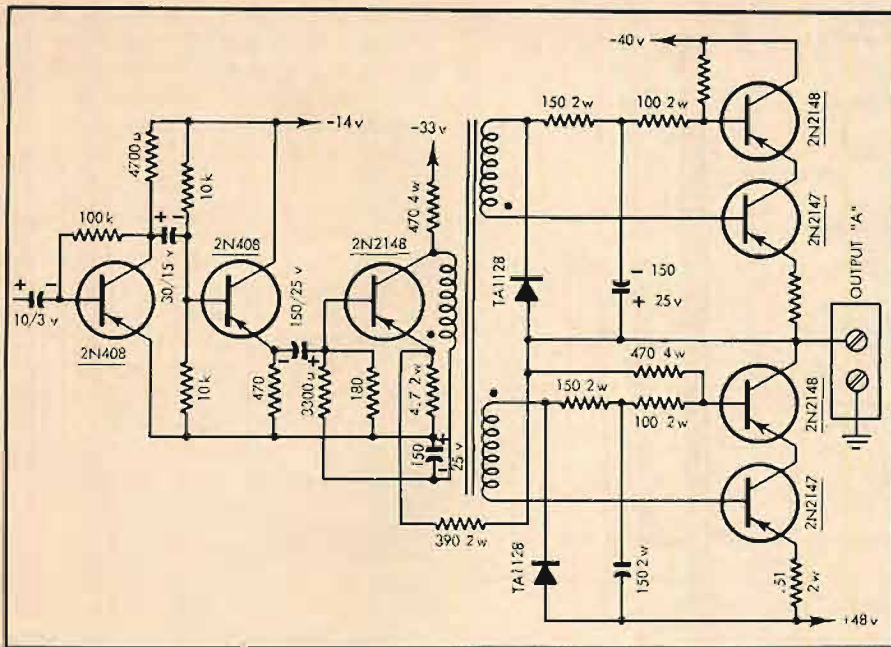
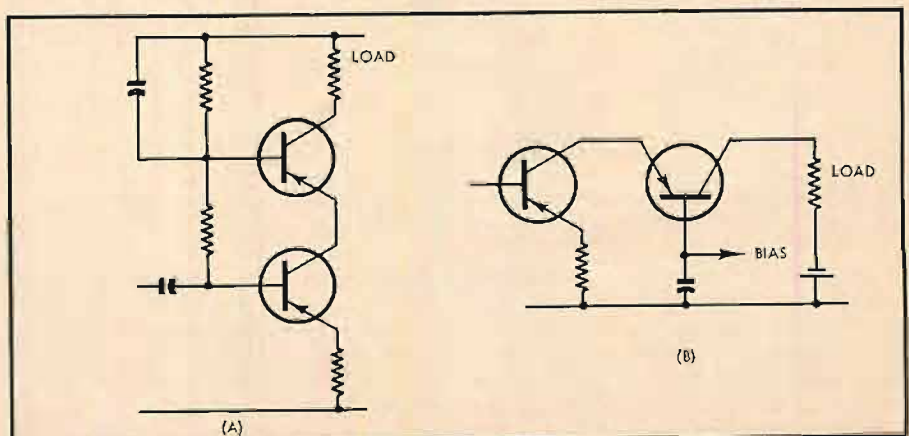

Fig. 4. Variation of basic circuit used in particular amplifier, Knight KN-450.
Fig. 5. The cascode circuit, grounded-emitter grounded-base amplifier gives low internal impedance.
*Figures 4* shows more covers from '47 and '48—the first with one of the first published photos of an anechoic chamber and the remainder devoted to master and studio control facilities of radio stations.
Fig. 4. Four of the earlier covers of the magazine: August, 1947, showing an anechoic chamber; December, 1947, and July and December, 1948, each with radio station installations.
Over the years the front cover of *Æ* has gradually shifted from the professional to the home user. There was even a brief interlude of an insert “magazine within a magazine” called *Video Engineering*, but that was only a flash in the pan, so to speak. Figure 5 shows more covers ranging from ultrasonics to the home installation. In order to appeal more to the audiophile, the “Engineering” was dropped from the title beginning in January, 1954, and in February a whole new cover design appeared—the one at the far right in Fig. 5. The designer of the new cover, Leo Leonni, felt that because of the diversity of subject material inside the book, the cover should show something technical and something not technical—hence the schematic along with a photo of a home installation or equipment for some months. Late in 1957 another cover design evolved which has continued up to now—but this month’s cover should not be considered another “permanent” change.
Fig. 5. Four more early covers: April, 1949, illustrating some ultrasonic experiments; March, 1950, the first of the short-lived *Video Engineering* inserts; January, 1951, with four home-type amplifiers using different tube types; and March, 1955, with a new cover style.
The variation shown in Fig. 4 is relatively uncomplicated and used a driver
in (A) and (B) of Fig. 5. The driver transistor is, of course, a power transistor. In the circuit of Fig. 4 the feedback is very simple, just a resistor connected between the live end of the speaker and the emitter of the driver transistor but in a version of this circuit described by RCA the ground end of the speaker is taken through a small resistor in the driver emitter lead to provide current feedback as well.
A feature of the cascode circuit is that with the high voltage, some 80 volts centered on ground, it becomes worthwhile to provide a supply which is virtually a twin supply. The circuit of Fig. 4 runs one half-wave rectifier into the negative line, starting with -40 v. for the output stage and dropping through a succession of RC filters to feed the earlier stages with lower and quieter supplies, while a second half-wave rectifier, in the opposite sense, provides a positive 42-volt line for the other half of the output stage. If the output stage is fully driven there should be 40 volts peak across the speaker.